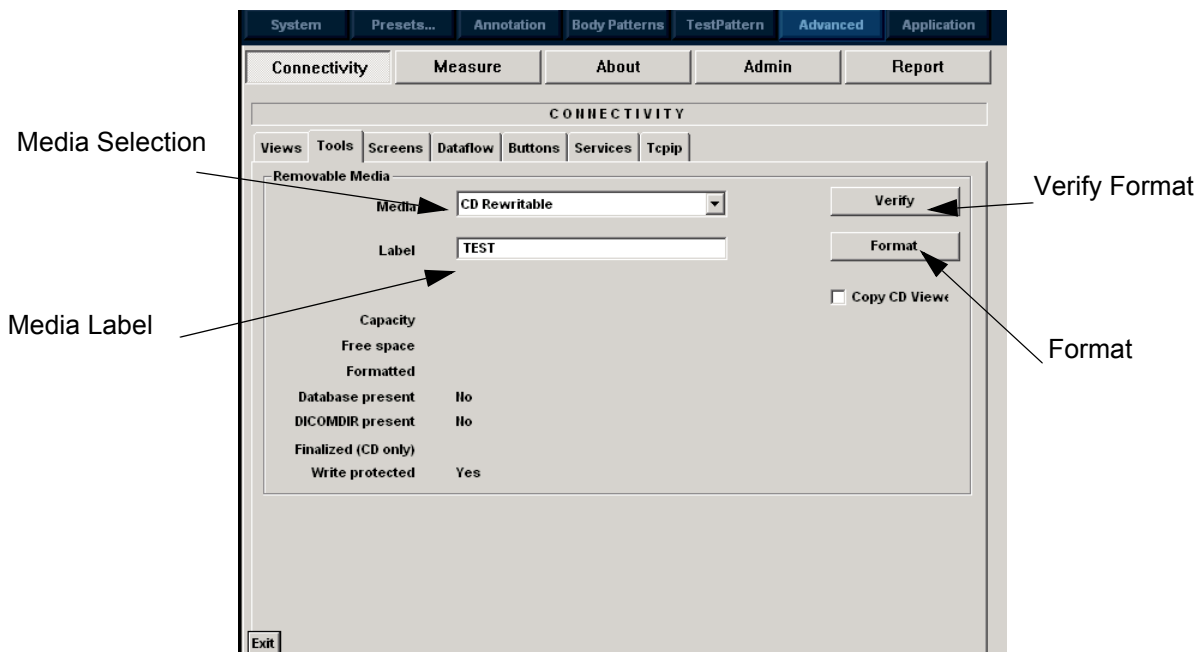

Figure 4-58 Format and Verify Media
- 4.) Enter the label for the media as shown in Figure 4-58 on page 4-27 . It is best to use all capital letters with no spaces or punctuation marks. Press Format.
- 6.) If desired, verify that the format was successful by returning to *Utility>Advanced>Connectivity>Tools* and selecting VERIFY as shown in Figure 4-58 on page 4-27 .